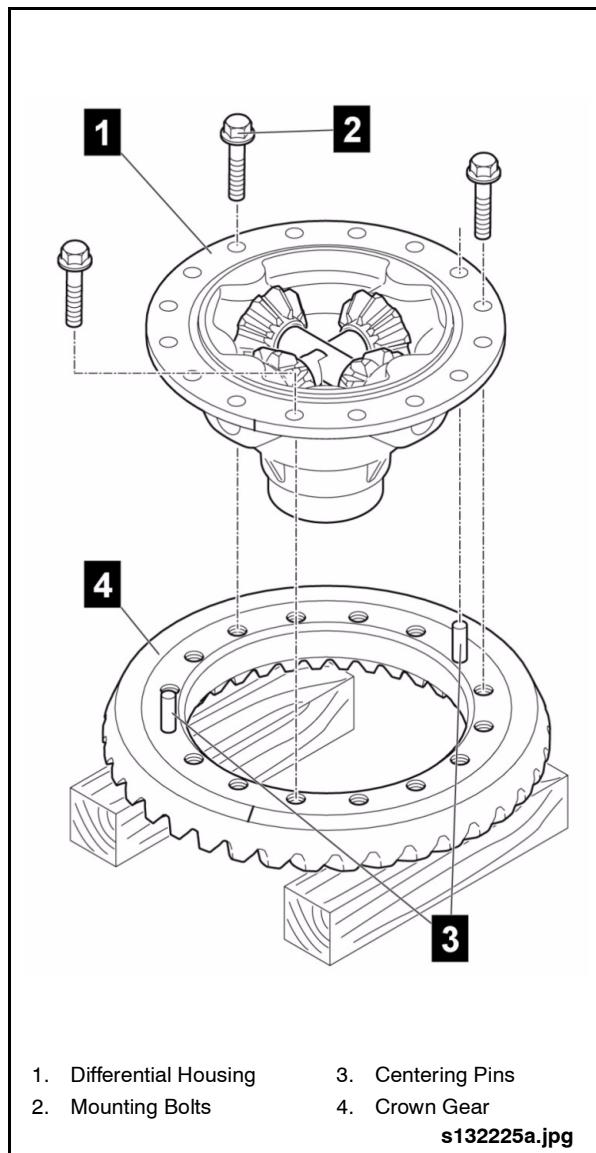

Fig. 2-64: Installing Crown Gear
1. Support the crown gear on wooden blocks with the gear teeth facing down. See "Fig. 2-64: Installing Crown Gear" on page 54.